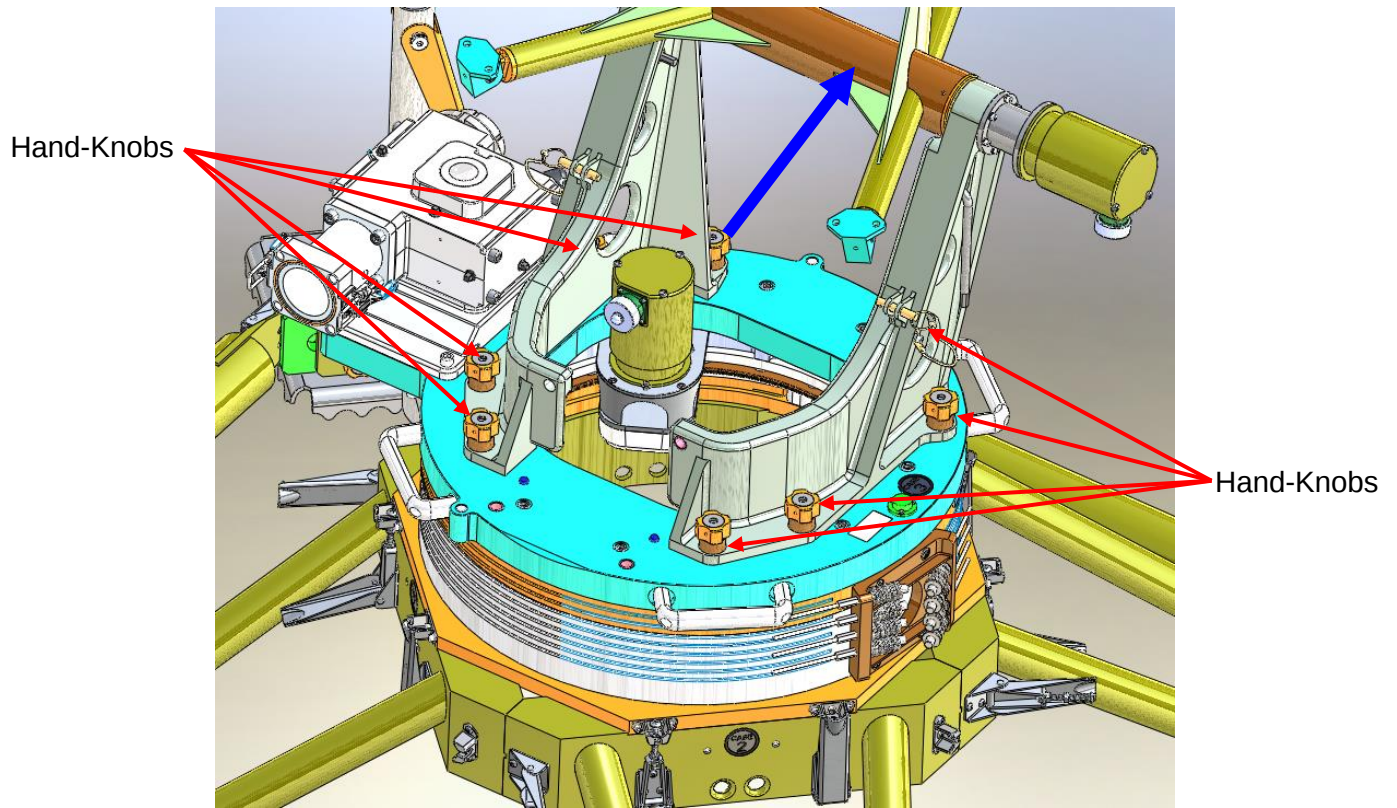

Figure 13a. Attachment of Elevation Frame
2. Place elevation frame onto the azimuth positioner (Case 6) in direction as shown in Figure 13a on page 22. Secure the elevation frame using the eight hand-knobs. Arrows on both the elevation frame and the azimuth positioner should match showing proper alignment as shown in Figure 13b on page 22.